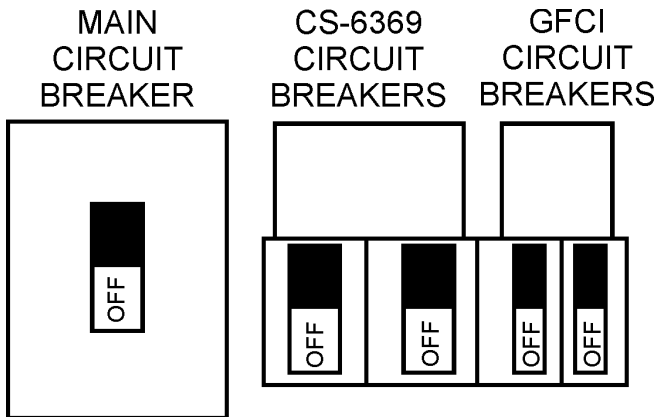

Figure 37. Main, Aux. and GFCI Circuit Breakers (OFF)
1. Place the **main, G.F.C.I., and aux.** circuit breakers (Figure 37) in the **OFF** position.